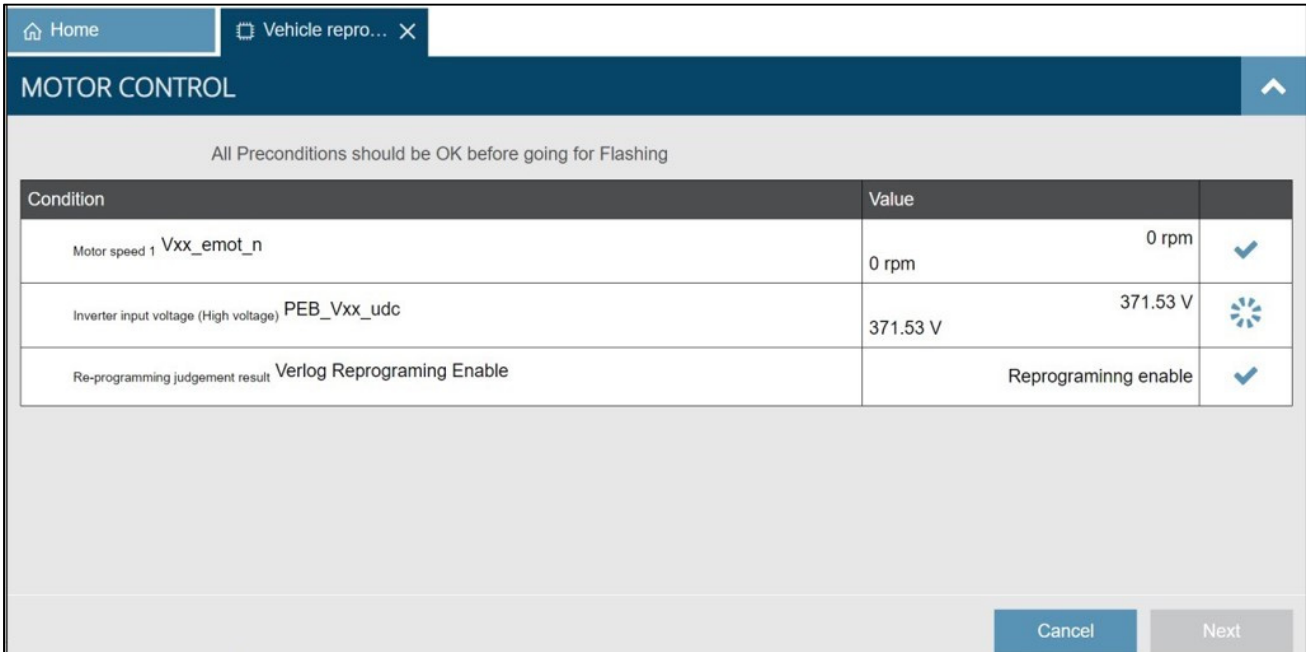

Figure 13
19. When the screen in Figure 13 is displayed, verify the headlamps and HVAC are turned OFF, and then press and hold the power switch for 5 seconds until a click sound is heard under the hood; the ignition turns OFF, and the blue charge indicator on the dash is no longer flashing.